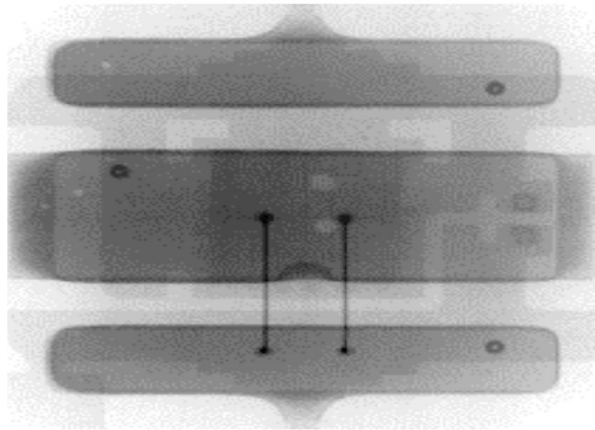

Figure 23. Example of good x-ray result.
1. Solder voids (see Figure 23) – perform x-ray inspection. As a general guideline, it is best to keep the solder void as recommended by latest version of the IPC-A-610 “Acceptability of Electronic Assemblies” document.